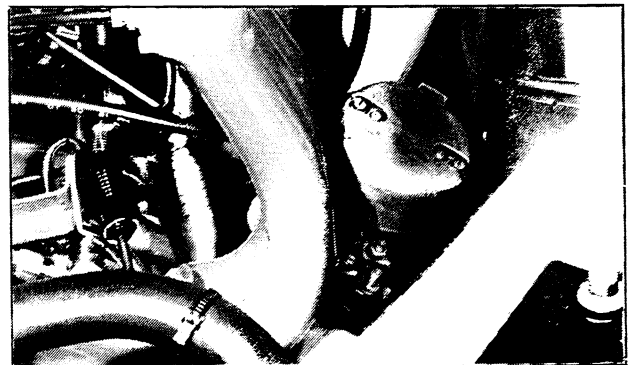

Figure 6D-27
6. Pull the starter motor up out between Nos. 2 and 3 inlet manifold branches (refer Fig. 6D-27).